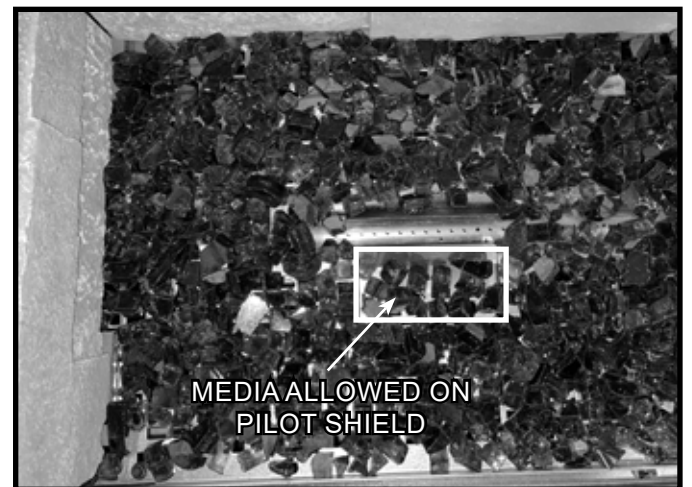

Figure 11.6 Media Placement Jig Removed
5. Place a few small pieces of media over the pilot shield as shown in Figure 11.6. **DO NOT allow any media in the area between pilot shield and the rear media stop.**